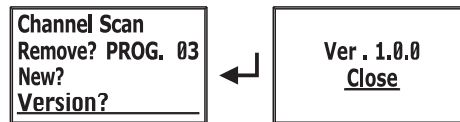

Fig. 29
(R) Version? function, Fig. 29: